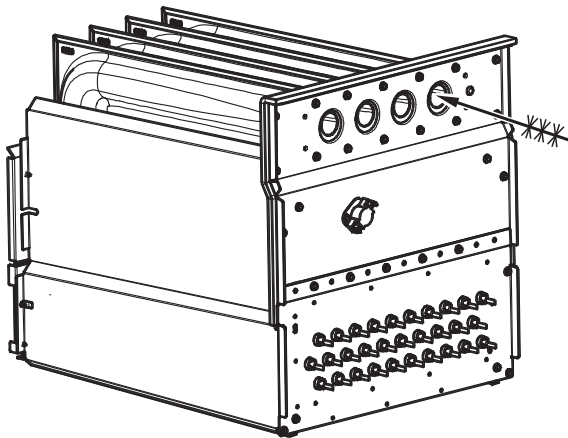

Fig. 61 – Cleaning Heat Exchanger Cell
7. Clean heat exchanger openings with a vacuum and a soft brush. See Fig. 61.